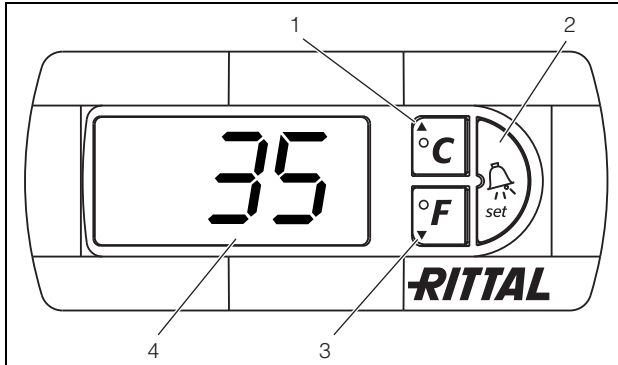

Fig. 24: e-Comfort controller
The cooling unit operates automatically i.e. after switching on the power supply, the evaporator fan (see Fig. 2, page 5) starts to run and circulates the internal enclosure air. The compressor and condenser fan are regulated by the e-Comfort controller. The e-Comfort controller has a 7-segment display (Fig. 24, no. 4). After switching on the power supply, the current software version initially appears on this display for approx. 2 seconds, as well as the activated eco-mode. Followed by a preset option (e. g. t10) or the temperature.
In regular operation, the display shows both the temperature (in degrees Celsius or Fahrenheit – users may switch between the two) and any error messages. The current enclosure internal temperature is usually displayed permanently. In the event of an error message, this will alternate with the temperature display. The unit is programmed using buttons 1 – 3 (Fig. 24). The relevant parameters also appear in the display.
- Simultaneously press buttons 1 and 2 (Fig. 24) for at least five seconds.
Using buttons 1, 2 and 3 (Fig. 24) you can change 24 parameters within the preset ranges (min. value – max. value).